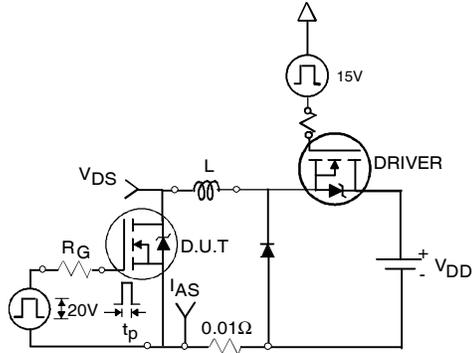

Fig 12a. Unclamped Inductive Test Circuit
3. Equation below based on circuit and waveforms shown in Figures 12a, 12b.
- ③ $I_{SD} \leq 130\text{A}$, $di/dt \leq 170\text{A}/\mu\text{s}$, $V_{DD} \leq V_{(BR)DSS}$, $T_J \leq 175^\circ\text{C}$.
- ④ Pulse width $\leq 400\mu\text{s}$; duty cycle $\leq 2\%$.
- ⑤ C_{OSS} eff. is a fixed capacitance that gives the same charging time as C_{OSS} while V_{DS} is rising from 0 to 80% V_{DSS} .
- ⑥ Calculated continuous current based on maximum allowable junction temperature. Package limitation current is 75A.
- ⑦ Limited by T_{Jmax} , see Fig.12a, 12b, 15, 16 for typical repetitive avalanche performance.